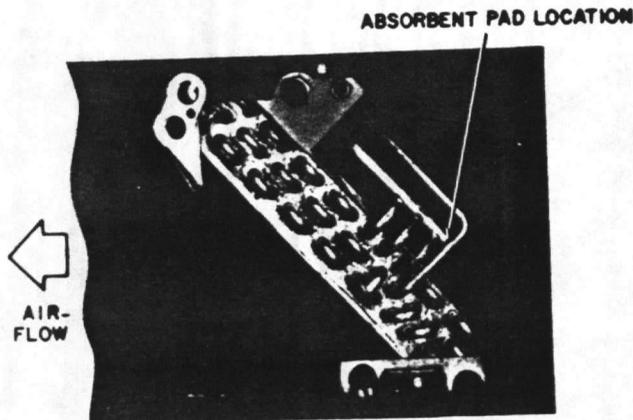

Fig. 2 — Coil Positioned for Left-Hand Discharge
2. An absorbent pad (Fig. 2) is factory installed over end of suction tube manifold. Pad eliminates condensate drip from end of suction manifold when unit is in horizontal position. Leave pad in position, *do not remove*.
4. Leaving both condensate pans in place, reinstall coil in cabinet as shown in Fig. 2. Ensure the coil positioning tabs enter slots provided in rear of cabinet.